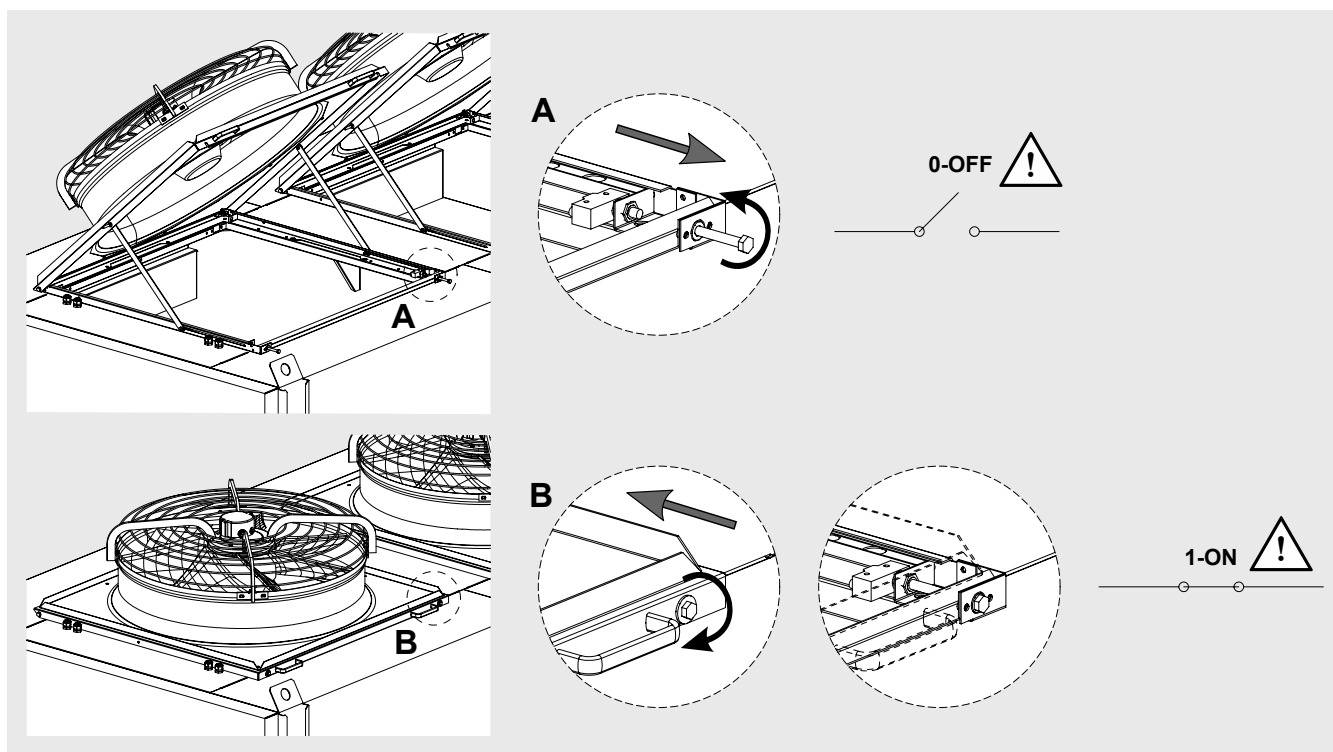

Figure 1
- 3.6 The product comes with a safety micro-switch: it is placed on the inner right-side of the frame. Its purpose is to stop the motorfan when the upper frame is lifted. The contact opens whenever the front screw on the right gets loosened. See "Figure 1".